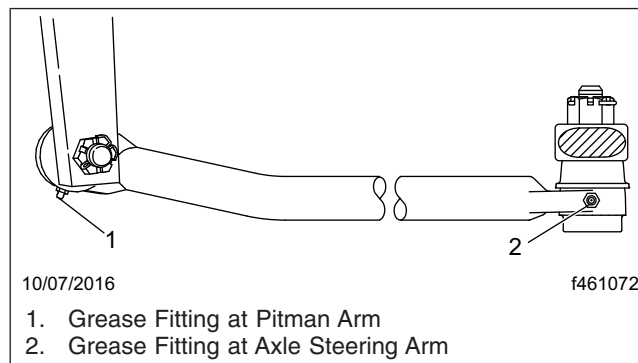

Fig. 1, Drag Link
1. Using a clean rag, wipe all dirt from both drag link grease fittings. See Fig. 1.